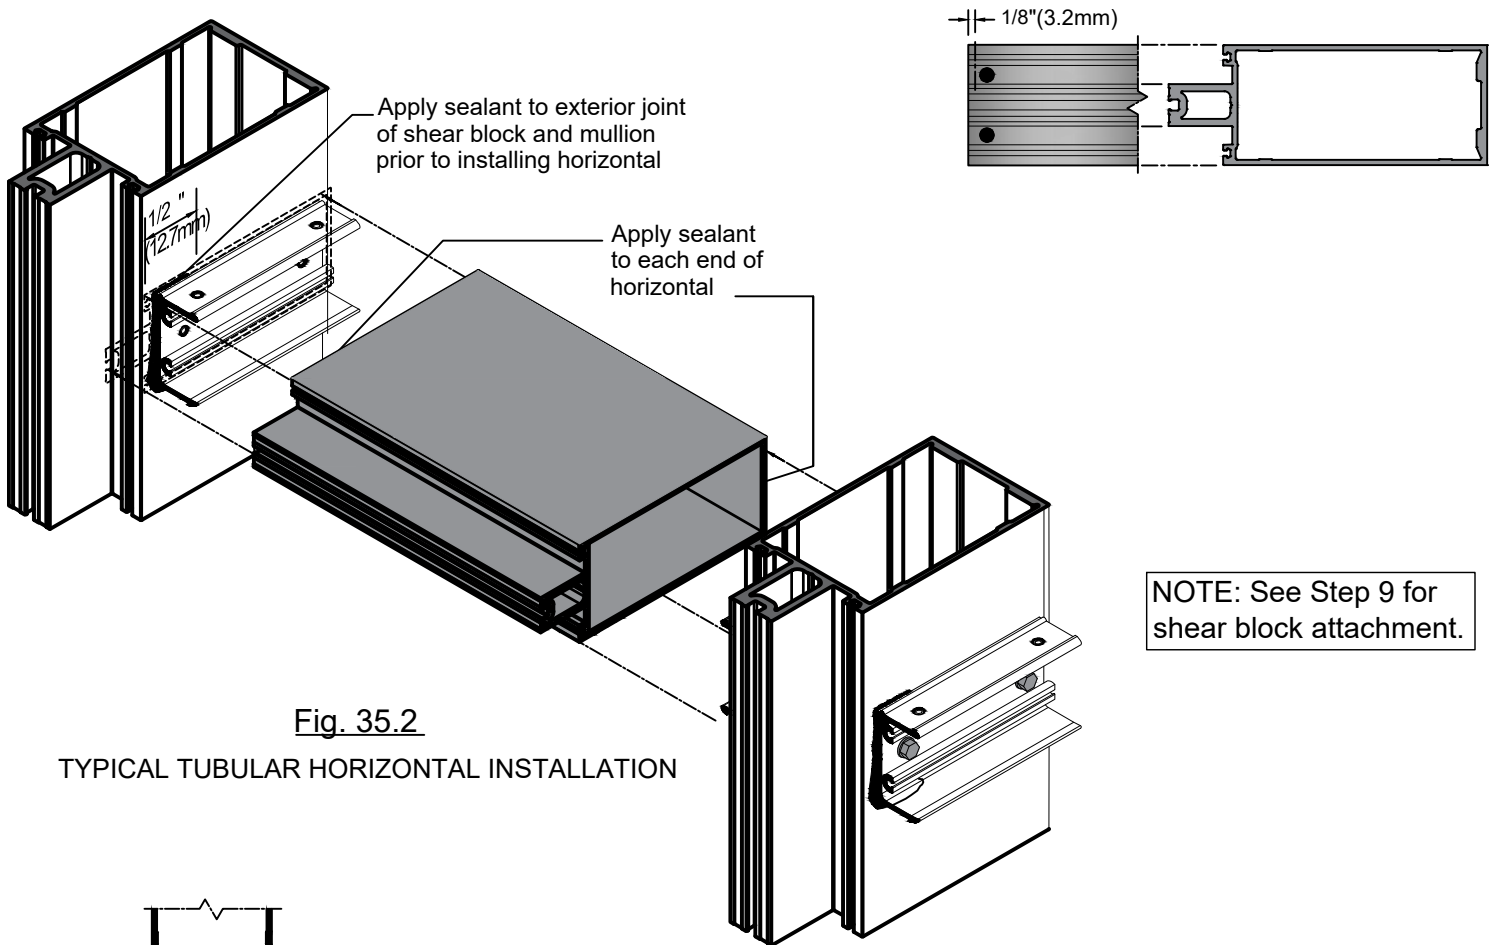

Fig. 35.2
- A. Seal shear block prior to installing the horizontal member. See Fig. 35.2.